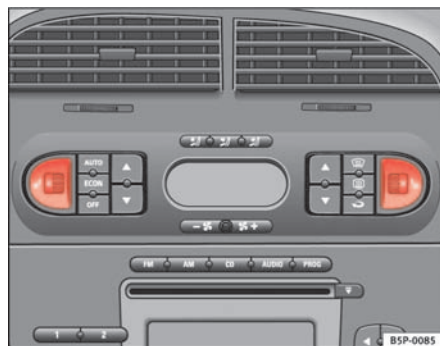

Fig. 96 Thumb wheel for the front seat heating
- Turn the appropriate thumb wheel $\Rightarrow$ fig. 96 to switch on the seat heating. The seat heating is switched off in the 0 position.